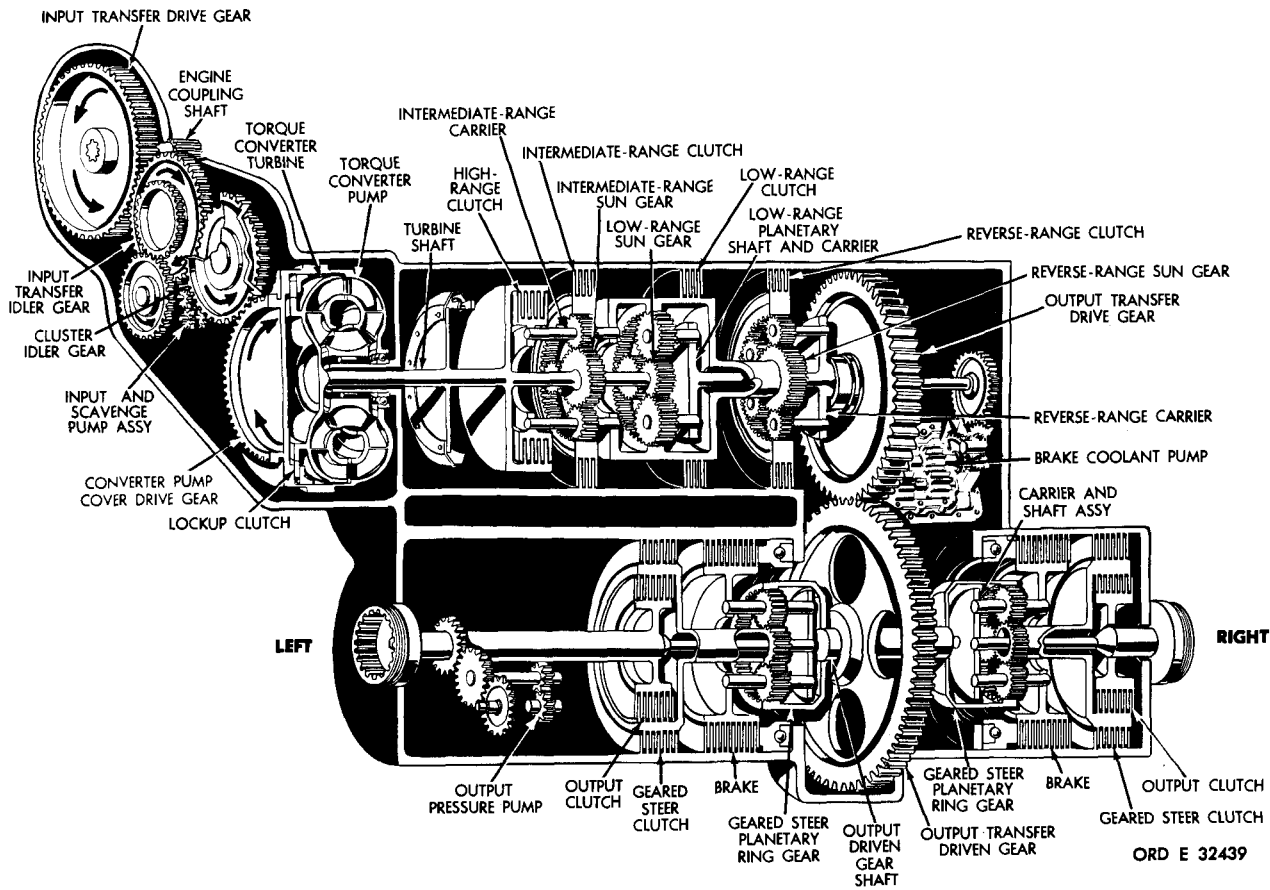

Figure 20. Gearing and clutches in power train — schematic view
a. Figure 20 is a schematic view of the power train without the output drive assemblies. All of the principal components through which torque flows are identified. Figure 21 is a cutaway view of the left-output drive assembly, colored to indicate the torque path. Subsequent figures, 22 through 34, are colored schematic views, illustrating the torque paths for the conditions indicated in each view. Arrows on components indicate the direction of rotation of such components.
42. TORQUE PATH - INPUT TRANSFER GEARING (fig. 20)
43. TORQUE PATHS - TORQUE CONVERTER AND LOCKUP CLUTCH (fig. 20)
TRANSFER GEARING (fig. 20)